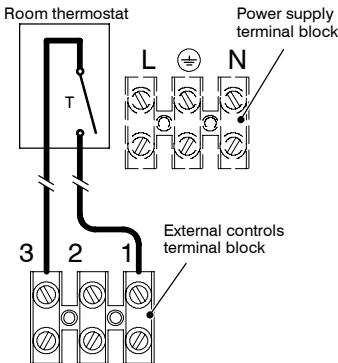

Fig. 6.14
- 8 Connect the room thermostat between terminals 1 and 3 as shown in Fig. 6.14.